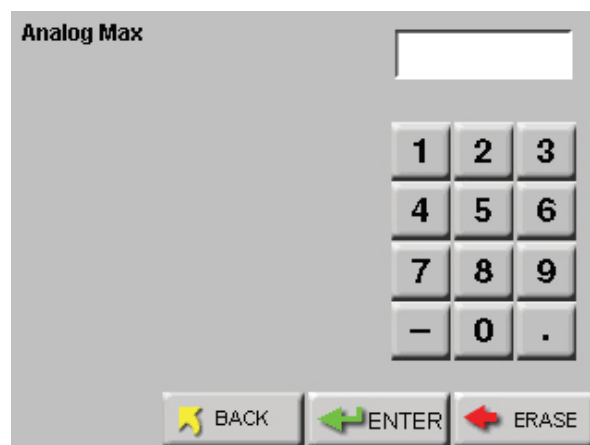

Figure 4-4 Max/Min Data Entry Screen
11. Enter the maximum value of the sensor's data range found on its documentation and press ENTER. See Figure 4-4.